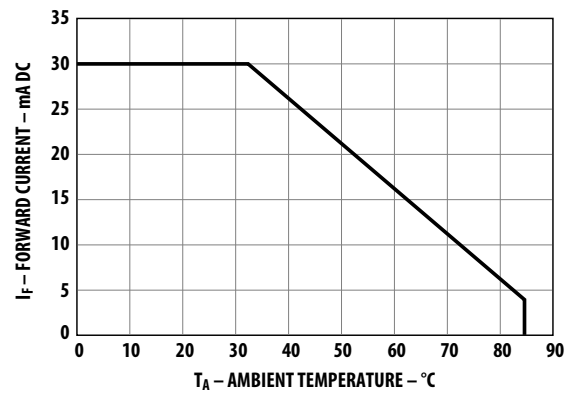

Figure 4. Maximum forward current vs. ambient temperature based on $T_J \text{ max.} = 115^\circ\text{C}$
2. Derate linearly as shown in Figure 4.